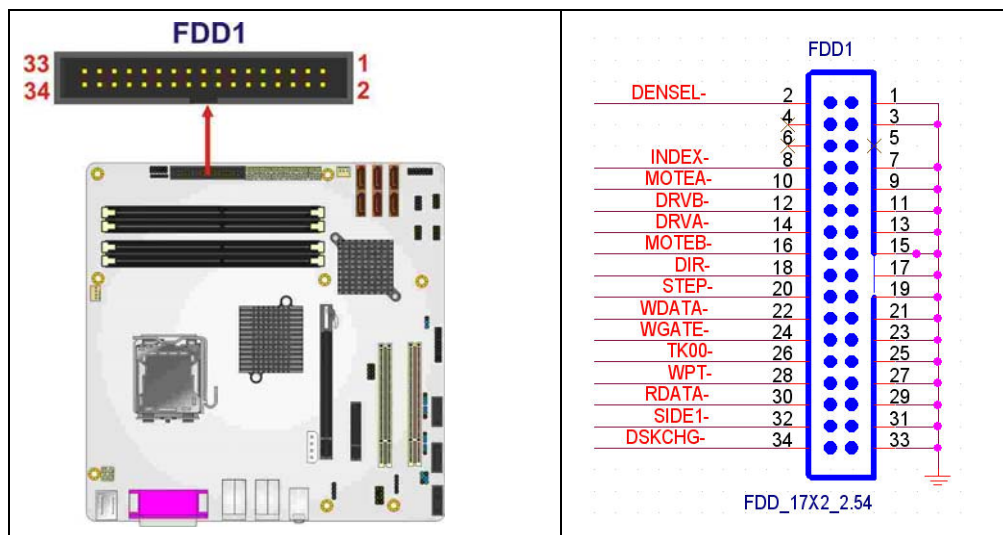

Figure 4-8: 34-pin FDD Connector Location
- CN Location:** See **Figure 4-8**